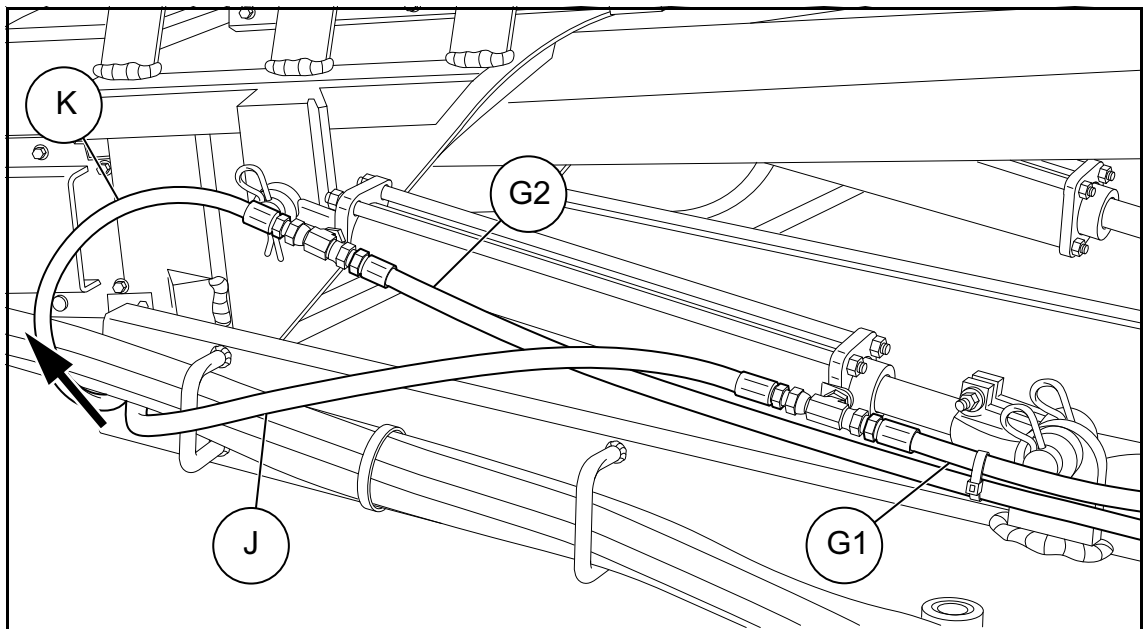
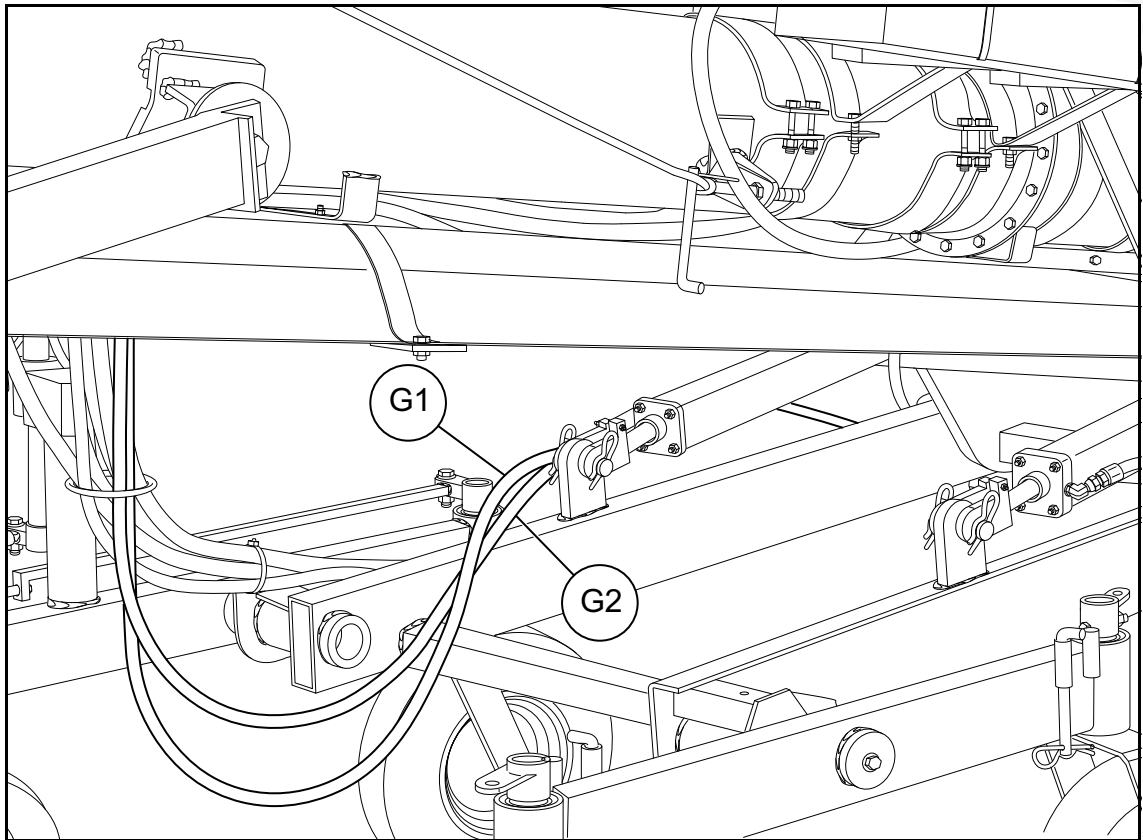

Figure 3.23 Wheel Move Cylinder (2)
Figure 3.24 Wheel Move Hydraulic Cylinder Hoses
10. Attach hoses J and K to the tee fittings on the other wheel move hydraulic cylinder (see Figure 3.23). Attach hoses G1 and G2 and route toward the spool valve (see Figure 3.24).